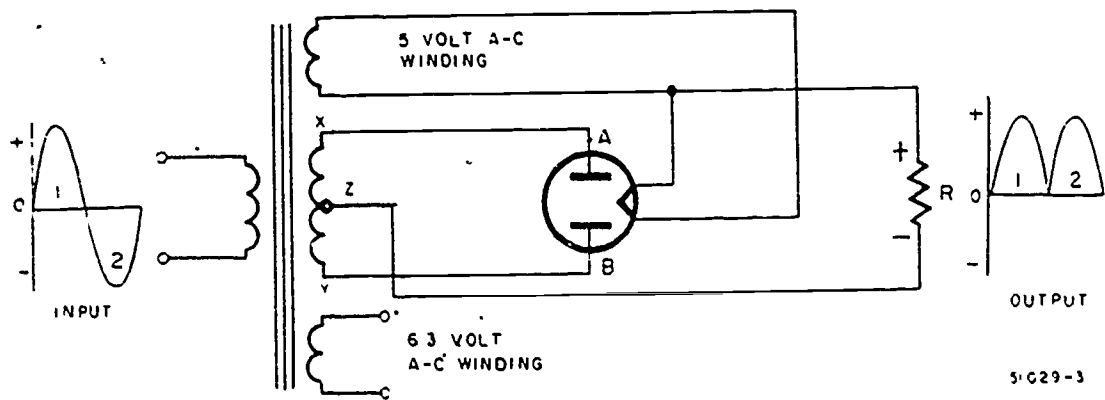

Figure 1-7. The full-wave rectifier.
- (2) Figure 1-7 shows a typical full-wave rectifier power supply. Section A of the twin diode converts one-half the input cycle to a dc pulse when plate A is positive, and section B converts the other half-cycle when plate B is positive. The result is an output frequency twice that of the output from the half-wave rectifier. The higher frequency is easier to filter to a steady dc. When the input frequency to a full-wave rectifier is 60 hertz, the output frequency is 120 hertz.
- (3) The junction diode can also be used in the half-wave and full-wave rectifier circuits.